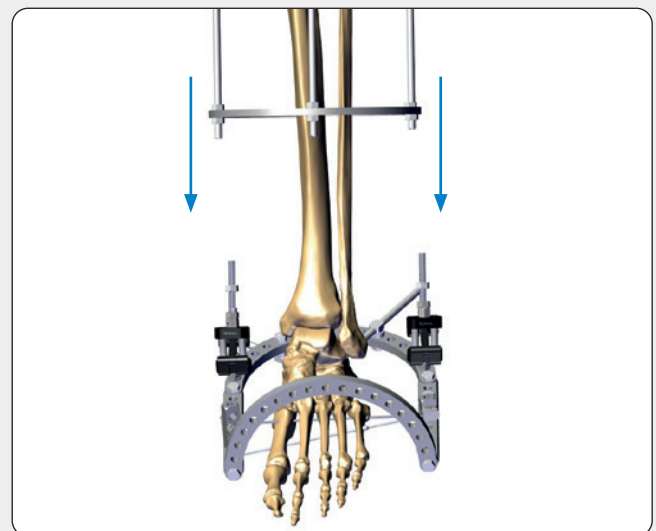

Fig 4a
- Attach the hinges to the tibial ring as shown in **Fig. 4a**.